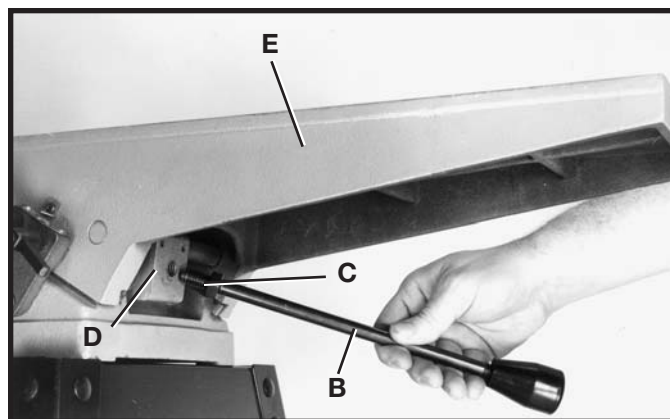

Fig. 12
1. Turn locknut (C) Fig. 12, clockwise on infeed table adjustment handle (B) as far as it will go.
2. Thread handle (B) Fig. 12, into block (D) which is located below infeed table (E).